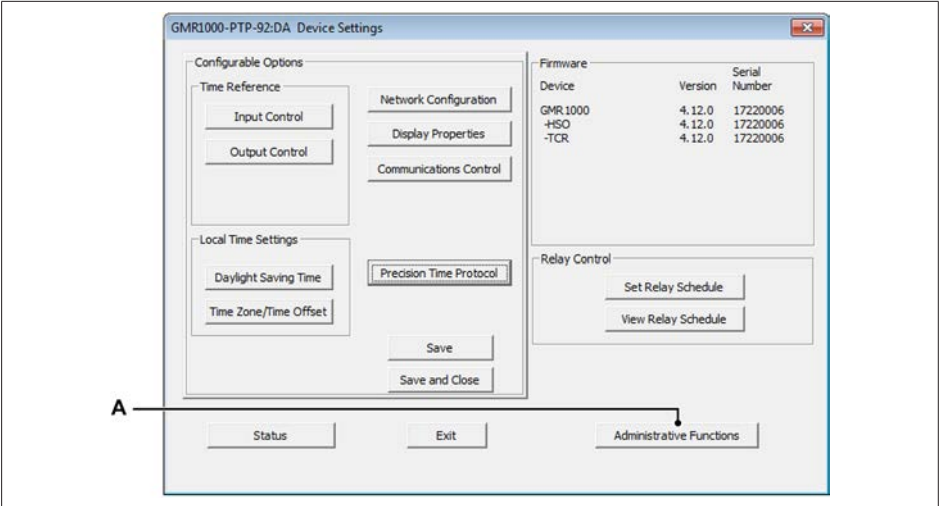

Fig. D.63 GMR1000 PTP Device settings
7. Finally, close the Advanced (data sets) and PTP - Precision Time Protocol windows. This will bring back the GMR1000 PTP device settings window (see Fig. D.63).
- As the IRIG signal contains no date, this needs to be entered manually. Open the **Administrative Functions** dialog with the **Administrative Functions (A)** button (see Fig. D.63)